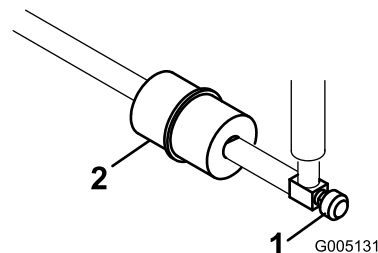

Figure 29
The in-line fuel filter is in the fuel line between the fuel tank and carburetor (Figure 29).
1. Close the fuel-shutoff valve (Figure 29).
2. Place a drain pan under the filter, loosen the hose clamp on the carburetor side of filter, and remove the fuel line from the filter (Figure 29).
3. Loosen the other hose clamp and remove the filter (Figure 29).